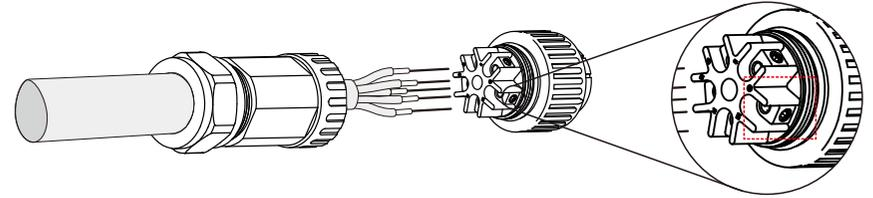

Figure 5.22 Connected cable
A) Stripped the insulation sleeve of cable for 70mm, so that bared copper-cored connector reaches for 9mm. Cable through nut and sleeve of socket element, insert corresponding terminals and tighten with allen wrench (see figure 5.22).
Tighten cable with 3.0 mm allen wrench (focus in dotted box, see figure 5.22). Allen screw is easy to drop off, don't screw out completely.